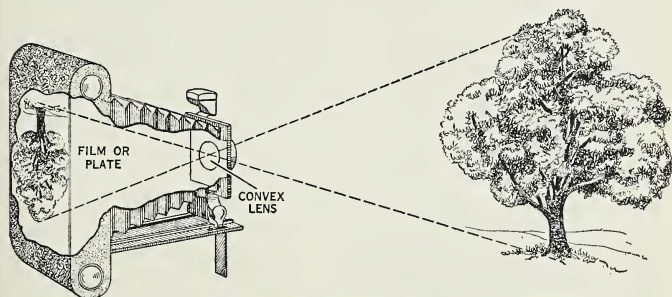

Fig. 250. How the object appears on the film of a camera.
**How photographs are made.** The camera consists essentially of a box with a convex lens on one side and a photographic plate on the opposite side (Fig. 250). When the camera is pointed at a tree and light is allowed to pass through the lens for a very brief time, the image of the tree that falls